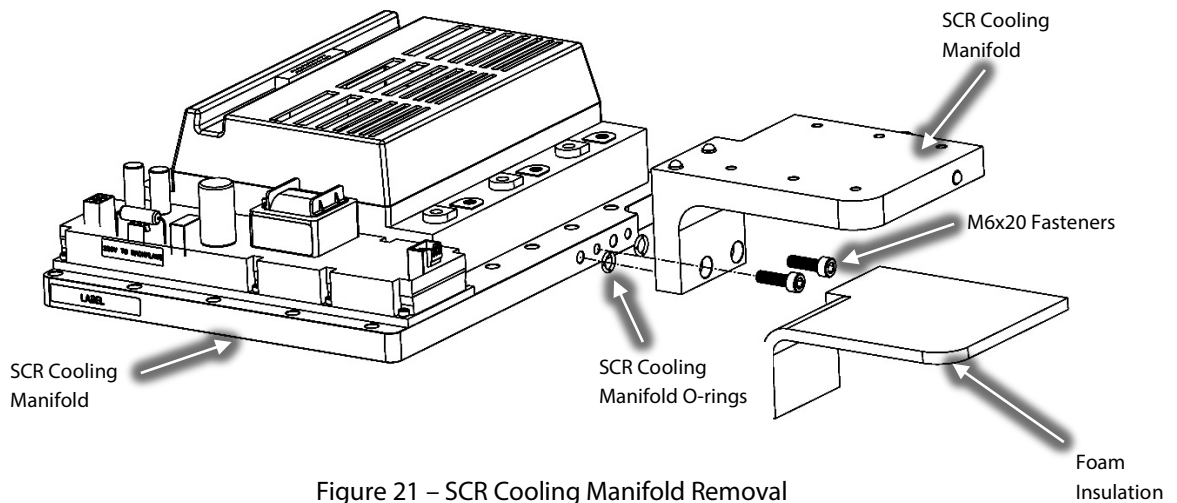

Figure 21 – SCR Cooling Manifold Removal
37. Remove and discard the M6x20 fasteners indicated in Figure 21 (SCR Cooling Manifold) and carefully remove the SCR Cooling Manifold. Carefully set aside the Inverter assembly.